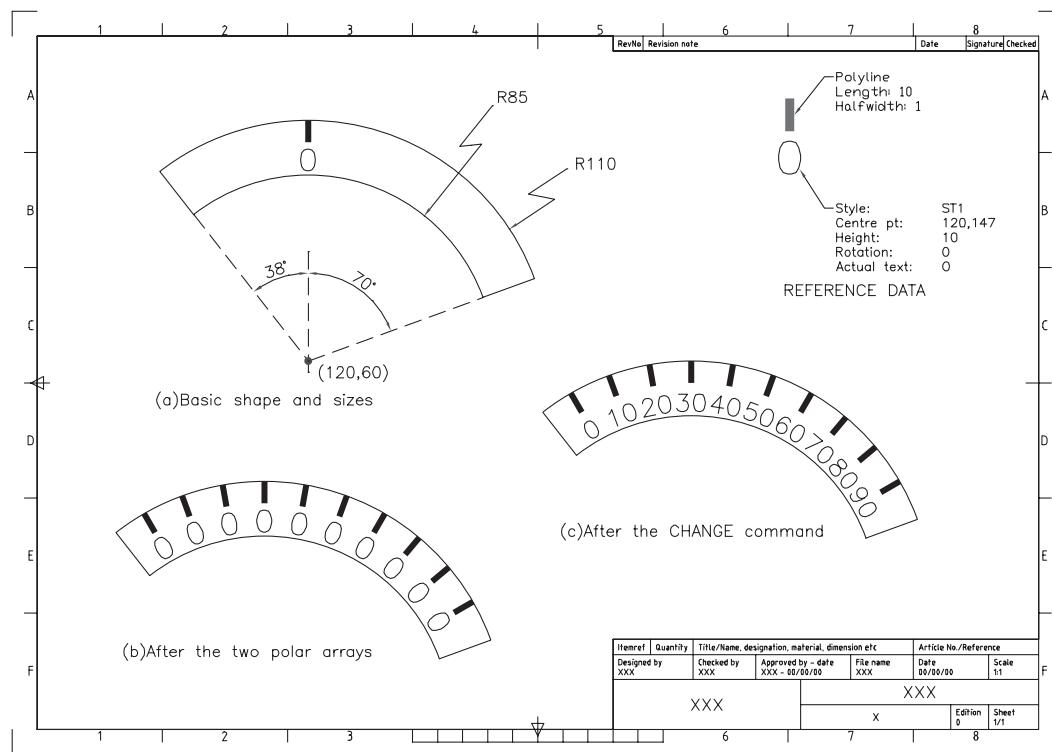

Figure 23.4 Using the ARRAY and CHANGE commands.
- 2 Open your standard A3PAPER sheet and refer to Figure 23.4.
- 3 Draw the two arc segments as trimmed circles using the information given in Figure 23.4(a).
- b) for 7 items, angle to fill -60 degrees with rotation – Figure 23.4(b).
- 6 The final result should be as Figure 23.4(c).